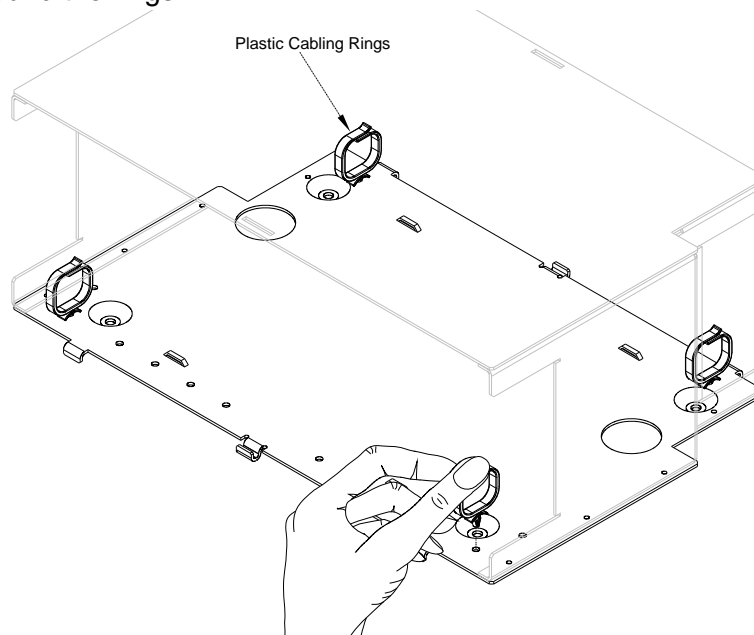

Figure 36 - Inserting Cabling Rings
6. Place a plastic cabling ring at each of the four corners of the chassis, as shown in Figures 36 and 37. You can add and move the rings around later during cabling. The rings not only serve as corrals for fiber cable but also as guideposts. You can insert cables in the split rings or route them around the rings.